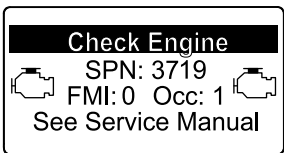

Figure 51
- Engine warning SPN 3719, FMI: 0 (Figure 51)